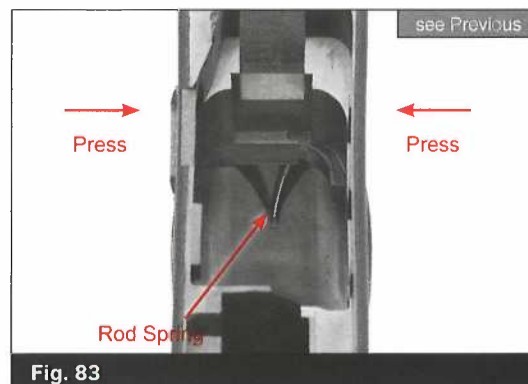

Fig. 83
- Prevent movement by pressing on both sides of the magazine catch. (Fig. 83)